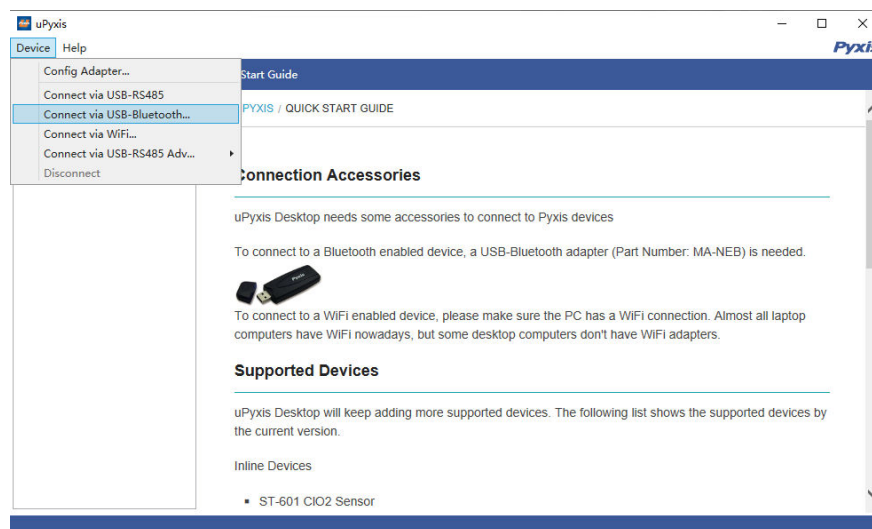

Figure 17.
3. On uPyxis® Desktop App, click Device → **Connect via USB-Bluetooth** (Figure 17).
4. If the connection is successful, the CR-301 and its Serial Number (SN) will be displayed in the left pane of the uPyxis® window.